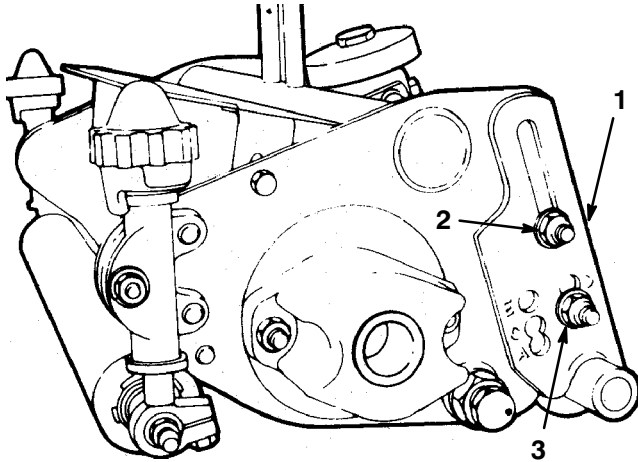

**Figure 2**
4. Check to make sure the bedknife and reel are parallel. On either end of the front side of the cutting unit insert a long strip of newspaper between the reel blade and the bedknife. Slowly rotate the reel and turn the bedknife adjusting knob (using a wrench) (Fig. 2) clockwise one click at a time, until the paper is pinched lightly, which results in a slight drag when the paper is pulled.